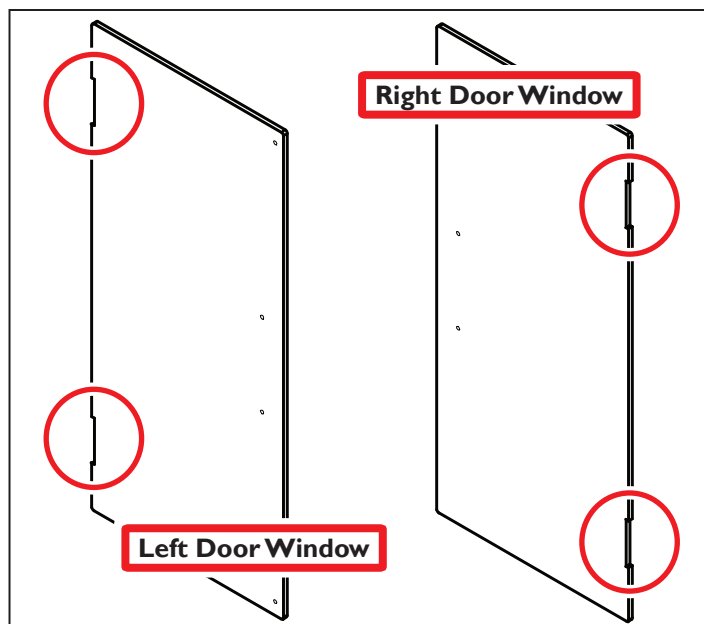

Figure 16
22. Slide four Door Hinges into notches on Left Door Window and Right Door Window (see **Figure 16**); using small flat-head screwdriver, tighten three set screws on each Door Hinge to secure to window.